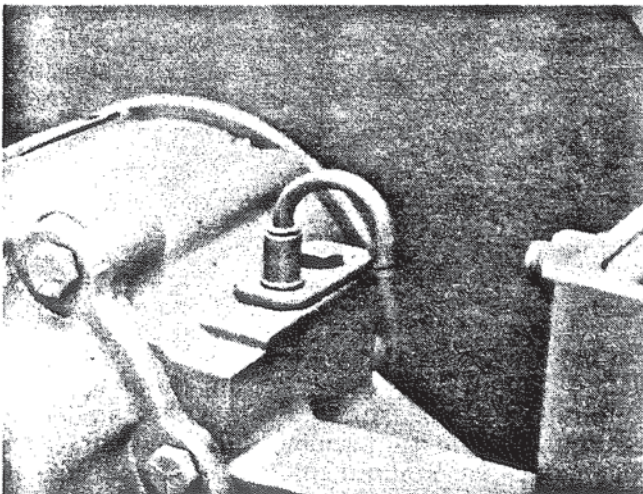

Figure 47. Installing Oil Level Gauge.
2. **Oil Level Gauge Tube.** Install the oil level gauge tube into the main housing. Figure 47. Secure the tube in the housing with the two (2) hex head cap screws (5/16-18 x 5/8). Tighten the tube screw to 15-17 ft. lbs. torque. Install the oil level gauge into its tube.